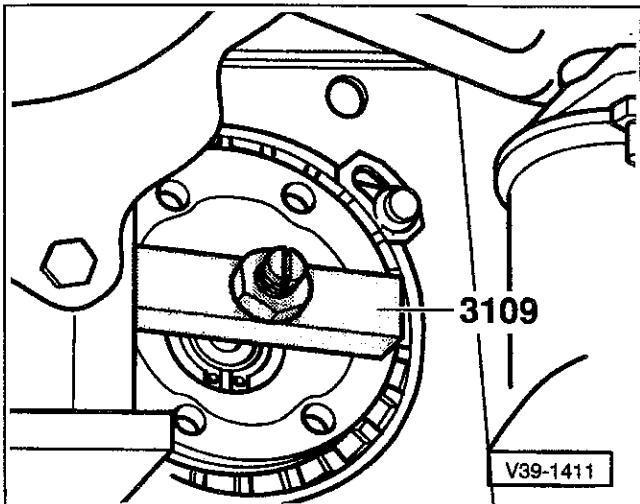

Fig. 18. VW special tool no. 3109 being used to compress spring behind drive flange so that circlip can be removed.
5. Mount press tool to drive flange. See Fig. 18. Screw threaded rod (M10) into axle shaft. Then turn nut on tool clockwise to compress spring.
9. Install drive flange with spring. Then pull drive flange into position using VW special tool no. 3109 or equivalent. See Fig. 18, given earlier.